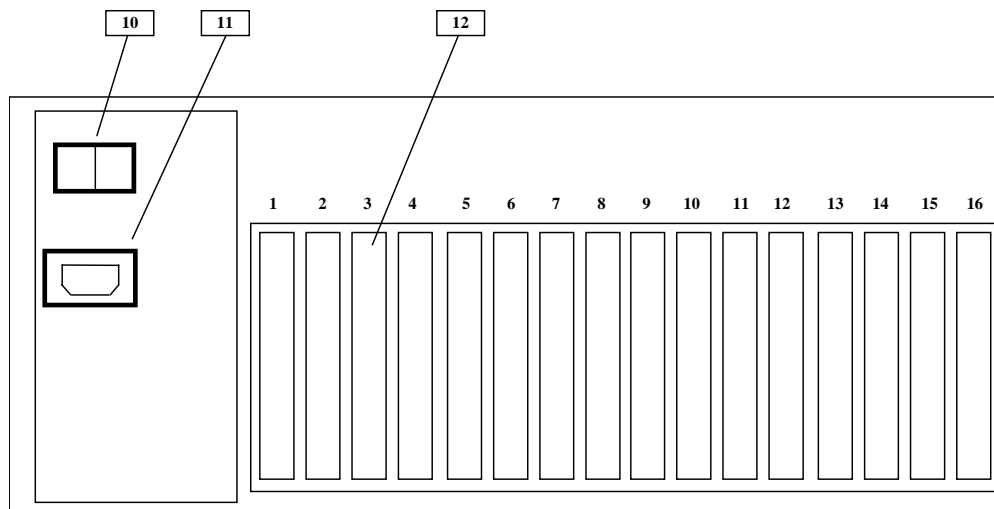

Figure 71 : AMS 16 rack – rear view
The CXR 2885P rackmount modem card rear panel includes (see Figure 71) :
The rack rear view includes (Figure 71):
- To switch ON the rack, press the On/Off switch located on the rear panel of the power supply card (see Figure 71).
- To switch OFF the rack, press the On/Off switch located on the rear panel of the power supply card (see Figure 71).